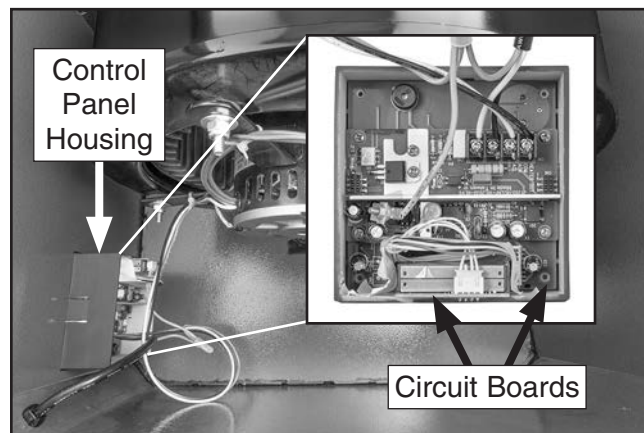

Figure 3. Circuit boards correctly installed in control panel housing.
4. Confirm circuit boards (see **Figure 3**) have not been knocked loose from control panel housing, and that there are no loose wiring connections.